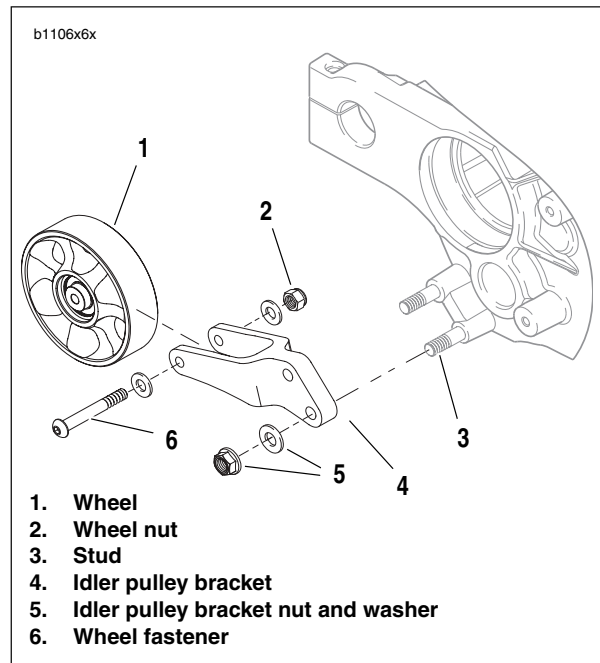

Figure 6-44. Idler Pulley Assembly
5. See Figure 6-44. Remove idler pulley bracket nuts and washers (5) from studs (3).
6. Slide idler pulley bracket (4) off studs (3).
7. See Figure 6-44. Inspect pulley by spinning wheel (1) and checking for wheel bearing wear. See INSPECTION under 1.9 DRIVE BELT.
8. If pulley wheel needs replacement, remove fastener (6), washer and nut (2) from idler pulley bracket (4) and discard wheel. Replace with **new** pulley wheel (1).
1. See Figure 6-44. Install new or existing pulley wheel (1), if removed, and tighten washer and nut (2) wheel fastener (6) to 20-23 ft-lbs (27.1-31.2 Nm).
2. Slide idler pulley bracket (4), washer and nuts (5) on to studs (3) and tighten to 33-35 ft-lbs (45-47 Nm). See DRIVE BELT INSTALLATION.